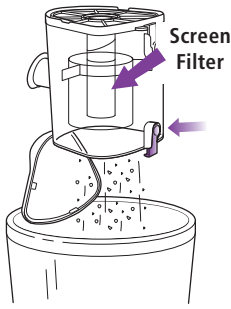

Fig. 21
- If needed, turn the dust cup upside down over the trash receptacle and press the top door release button. (Fig. 21) Tap gently to remove contents. Use a dry cloth or paper towel to remove debris stuck to the screen filter inside the dust cup. Press the door shut again until it clicks.